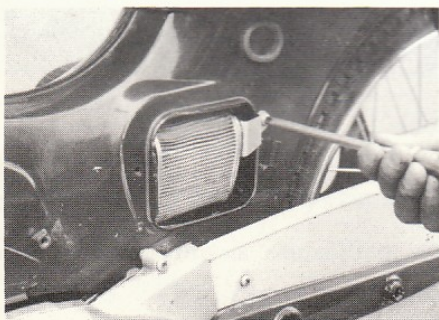

Fig. 3-3
3. Remove the air cleaner case, take out the air cleaner element, and disconnect the wiring. (Fig. 3-3 & 3-4)